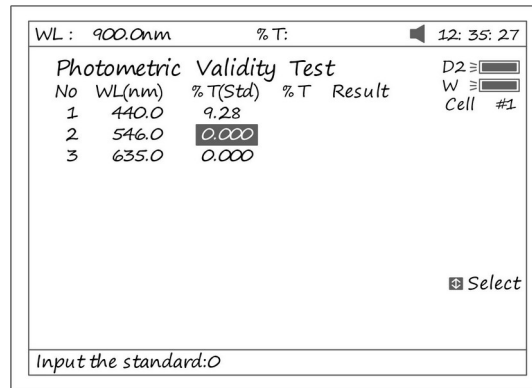

Fig 91
2. Press [F1] to set the standard value, Press [ENTER] to edit and input by pressing the numeric keypad (Fig 91). [ESC/STOP] to finish inputting and exit.